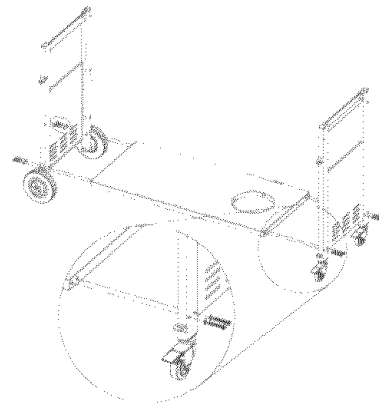

Figure 3
3. Assemble cart leg with bottom panel using (8) $\frac{1}{4} \times \frac{7}{8}$ " Phillips head screw and (8) $\frac{1}{4}$ " lock washers.(Fig.3)